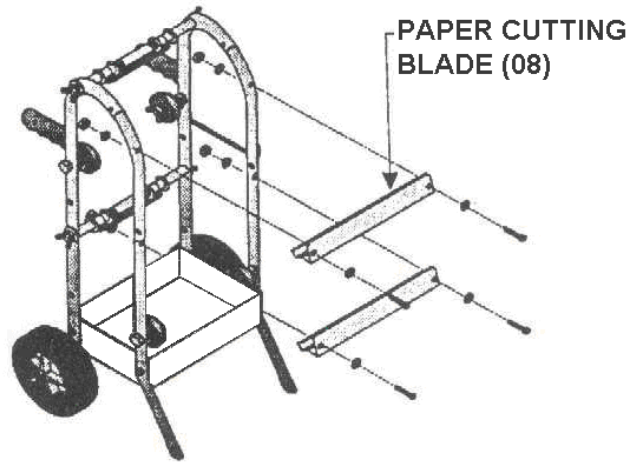

*Figure 6. Cutting Blade Installation.*
16. Install both cutting blades (08) onto the front frames as shown in *Figure 6*. Mount upper blade with the cutting edge down, and lower blade with cutting edge up. Assemble using two screws, four washers, and two nuts per paper cutting blade.